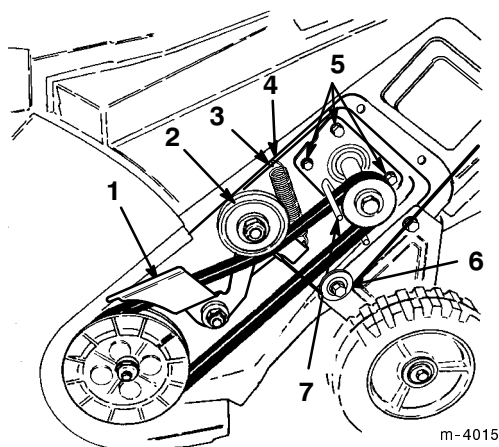

Figure 18
8. Loosen the four engine mounting nuts enough to allow the belt guide to rotate away from the drive pulley to remove the belt (Fig. 18).
- Ensure that the long end of the idler spring is hooked in the housing hole and the round end of the spring is hooked in the brake arm (Fig. 18).
- Lift up the brake arm assembly, squeeze the drive belt together, and route the drive belt under the idler pulley (Fig. 18).
IMPORTANT: Ensure that the drive cable is on the cable pulley before you install the left side cover (Fig. 18)